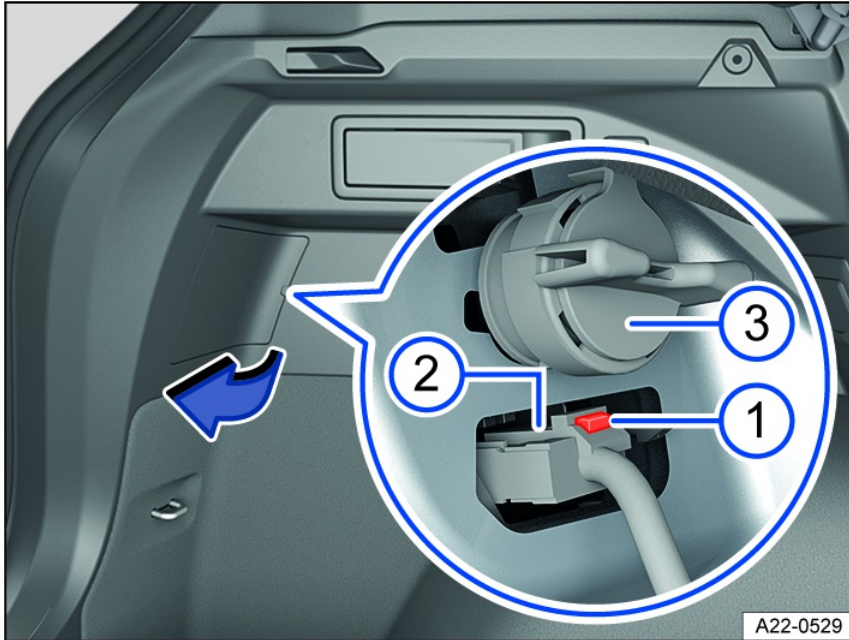

Fig. 185 Side of the luggage compartment: removing the taillight.
1. Open the section of the side trim panel in the luggage compartment near the taillight in the direction of the arrow *fig. 185*.
2. Remove the red securing clip on the connector *fig. 185* ① and remove the connector *fig. 185* ②. If necessary, use a suitable tool to help loosen the red locking mechanism.
3. Remove the screw counterclockwise *fig. 185* ③.
1. Fit the connector *fig. 185* ② and press the red locking mechanism into the connector *fig. 185* ①.
3. Hold the taillight in the installation position with one hand and tighten the screw with the other hand *fig. 185* ③.